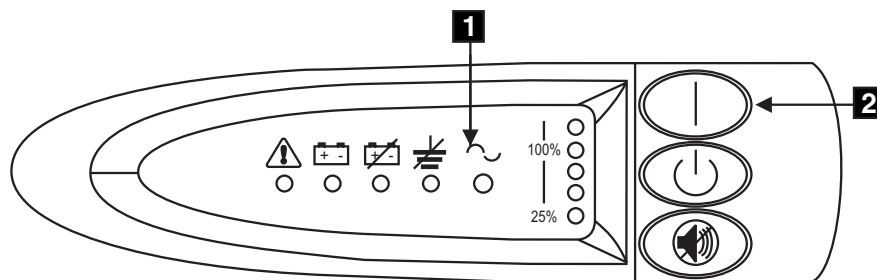

Figure 26. Power switch and indicators of the uninterruptible power supply
10. All front panel indicators of the uninterruptible power supply flash for a short time while the uninterruptible power supply runs a self test. When the test is complete, the mode indicator **1** flashes to show that the uninterruptible power supply is in standby mode (see Figure 26).